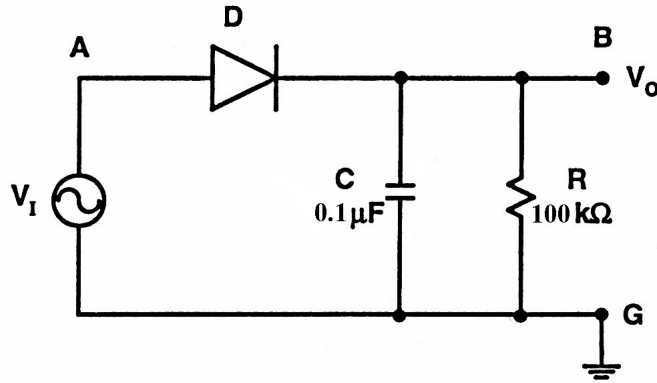

Figure 2: A Rectifier Circuit with Capacitor Filter.
- For a circuit resembling that in Figure 2, consisting of an ideal rectifier diode, a $0.1\ \mu\text{F}$ capacitor, and a $100\text{ k}\Omega$ load, fed by a 10 V peak triangle wave at 100 Hz, sketch the output waveform.
- **Setup:** Assemble the circuit shown in Fig. 2. Use a 10 V peak 100 Hz sinewave input.